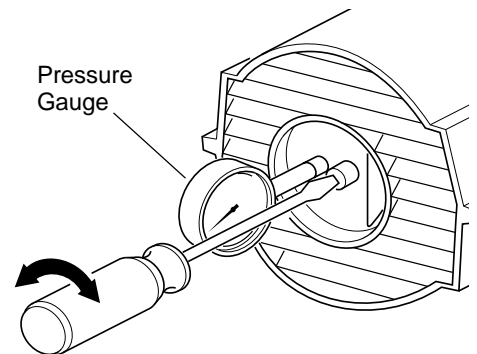

Figure 8 - Adjusting Pump Pressure
14. Place fine grade sandpaper (600 grit) on flat surface. Sand rotor lightly in "figure 8" motion four times (see Figure 17).